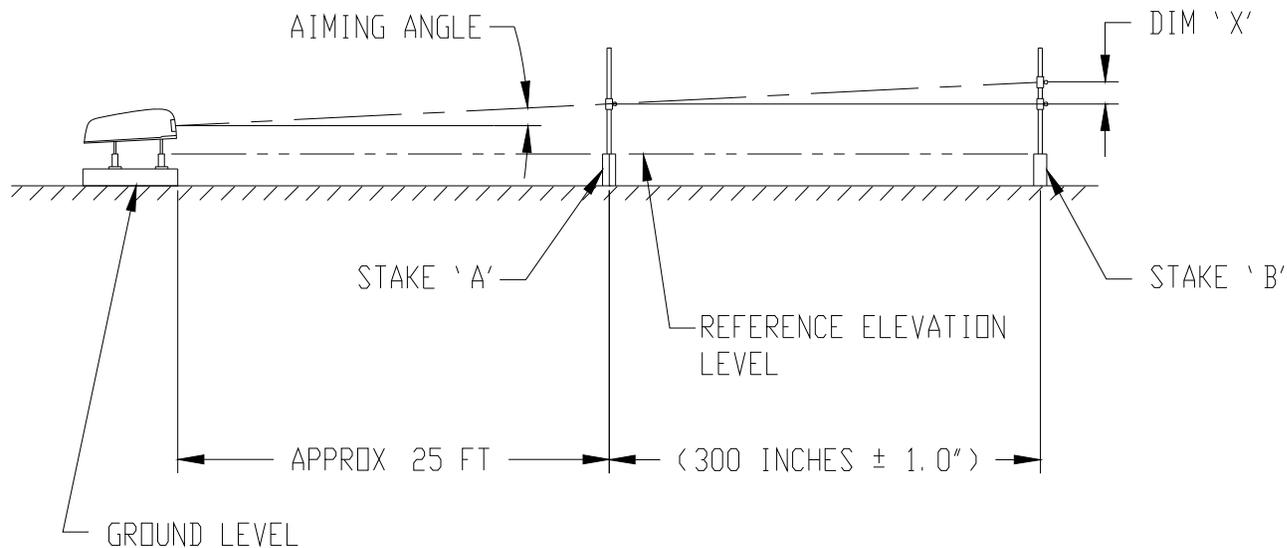

Figure 7
1. Locate a point (A) approximately 25ft. in front of the PLASI unit and another point (B) 300 inches \pm 1.0 in front of point (A). (Figure 7).
2. At each location, drive a stake into the ground. Use a transit to align the top of each stake to the same level. The stake tops should be no higher than the PLASI mounting leg height. (Figure 7).
(Figure 7).